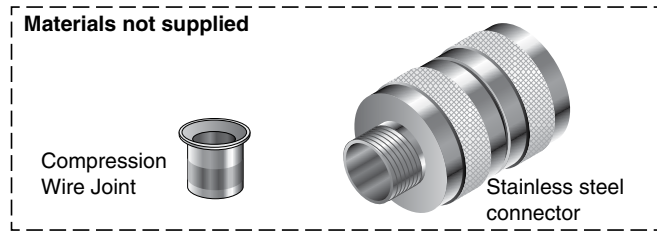

Figure 1
- American Connector stainless steel MC connector – Type WT-WSE (See Figure 1)
- Thomas&Betts tin plated copper compression wire joint (See Figure 1)